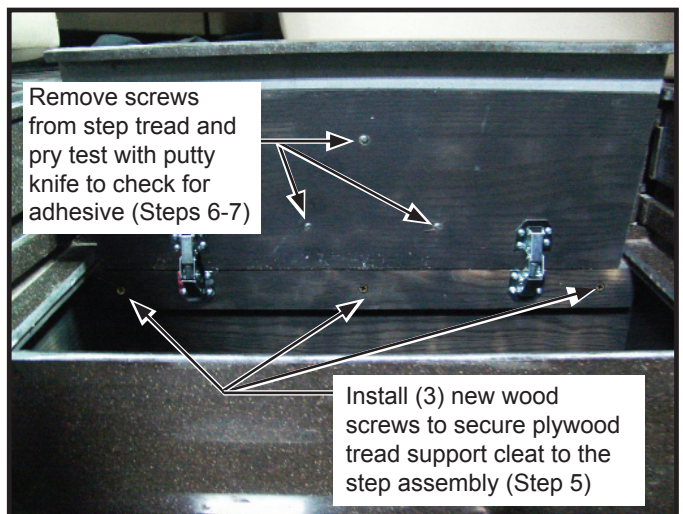

Figure 3
5. Install three new 1 5/8" wood screws, spaced equally across the plywood tread support cleat to secure it to the step assembly. See Figure 3. Repeat for the other tread support cleat.
6. Remove the screws from the underside of one of the hinged solid surface step treads. See Figure 3. Repeat for the other step. Save screws for reinstallation.